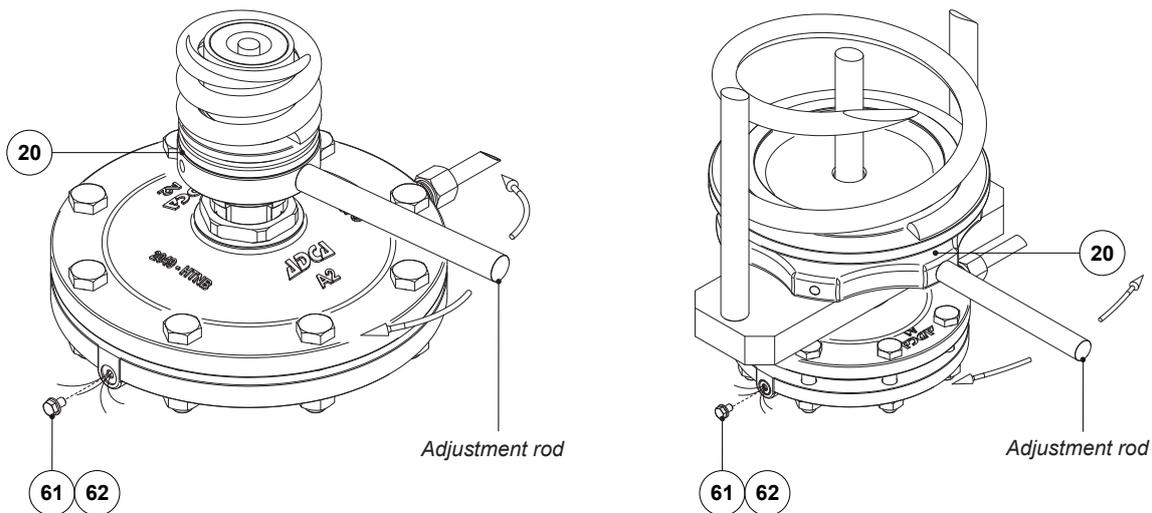

Fig. 2 - Changing the compression of the adjustment spring
2. Set the downstream pressure by turning the spring adjusting nut (20) with the help of the adjustment rod, monitoring with the aid of the downstream pressure gauge.
- a. Turn the adjustment rod clockwise to increase spring compression and increase downstream pressure – see Figure 2.
- b. Turn the adjustment rod counterclockwise to decrease spring compression and reduce downstream pressure – see Figure 2.